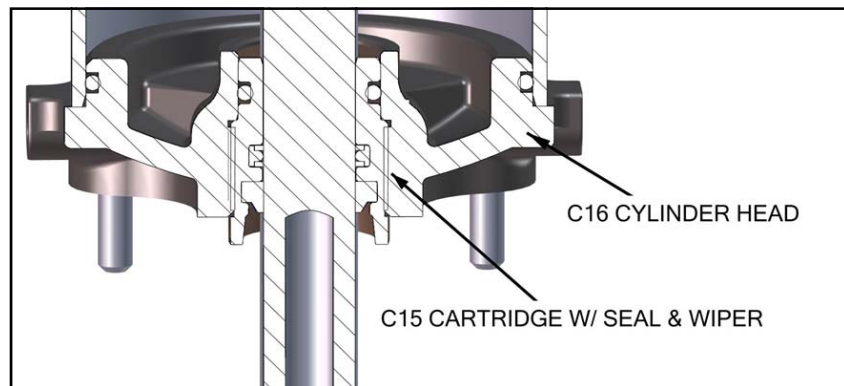

Figure 5—Rod Seal Detail
7. Remove cylinder seal cartridge assembly (C15). Use a spanner wrench to unscrew the cartridge assembly (C15) out of the cylinder head (C16). See Fig 5.